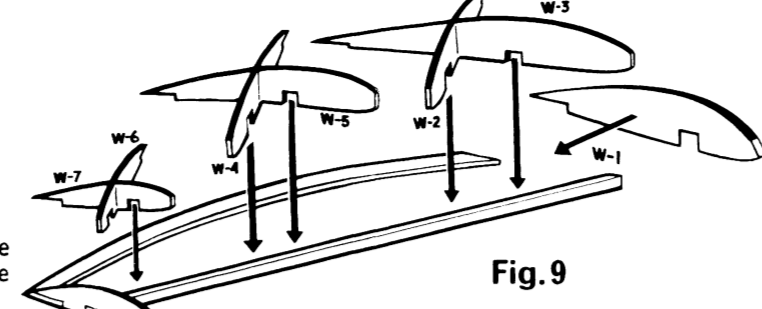

Fig. 9
STEP 10. Now criss cross wing formers W 2 and W 3, place in position on FIG. D and glue to main spar and trailing edge. Repeat with W 4 and W 5, and W 6 and W 7 (Fig. 9). Glue W 1 in place. Note that W 1 is glued at an angle (FIG. E). Use Wing Angle (dihedral) template as a guide.